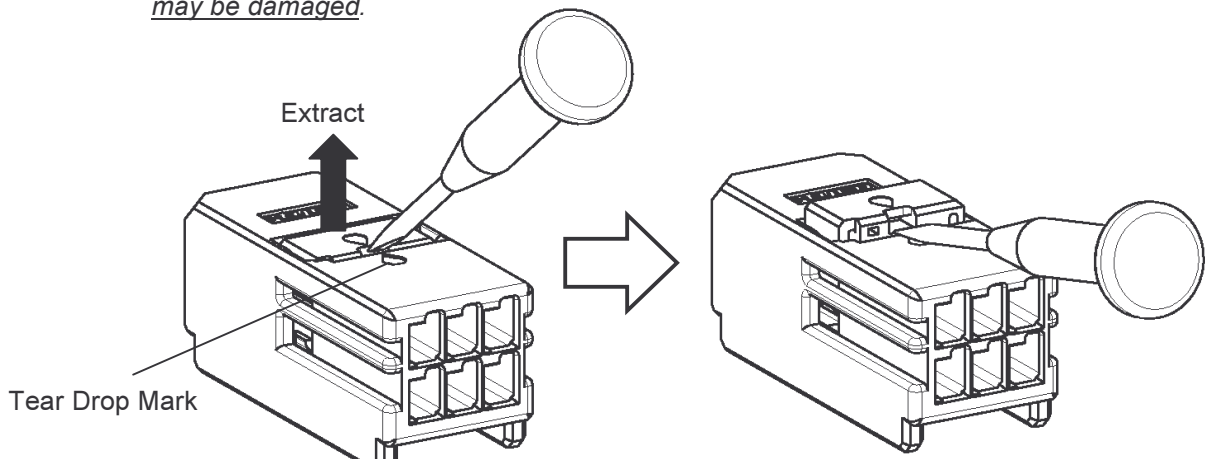

Fig.11
- (1) Insert the jig, 1mm blade screw driver, into the window of the retainer pointed by the tear drop mark. See Fig.11.
- (2) Draw out the retainer, about 1mm, to pre-assembled condition. Confirm that all of the projection is unlocked. See Fig.11.